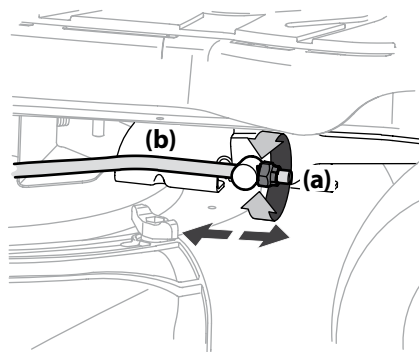

Figure 4-3
- Locate the flange lock nut (a) on the front end of the PTO lift rod (b). See Figure 4-3.